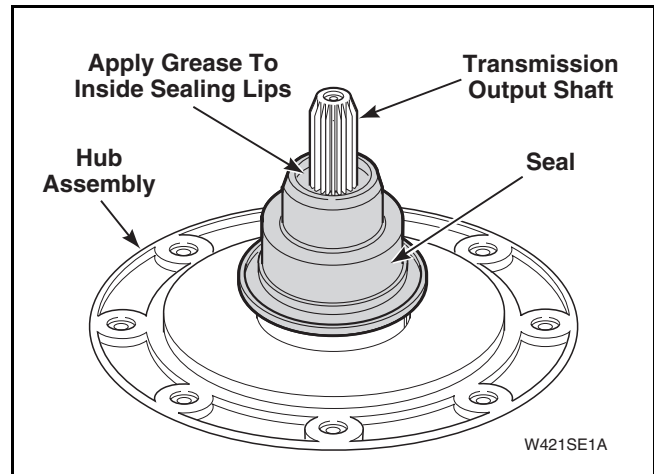

Figure 25
- Lubricate new seal with liquid soap or soapy water to aid in assembly of seal onto hub. Refer to *Figure 25*.
- Apply a small amount of supplied grease, No. 36765P, to inside sealing lips of seal. Refer to *Figure 25*.